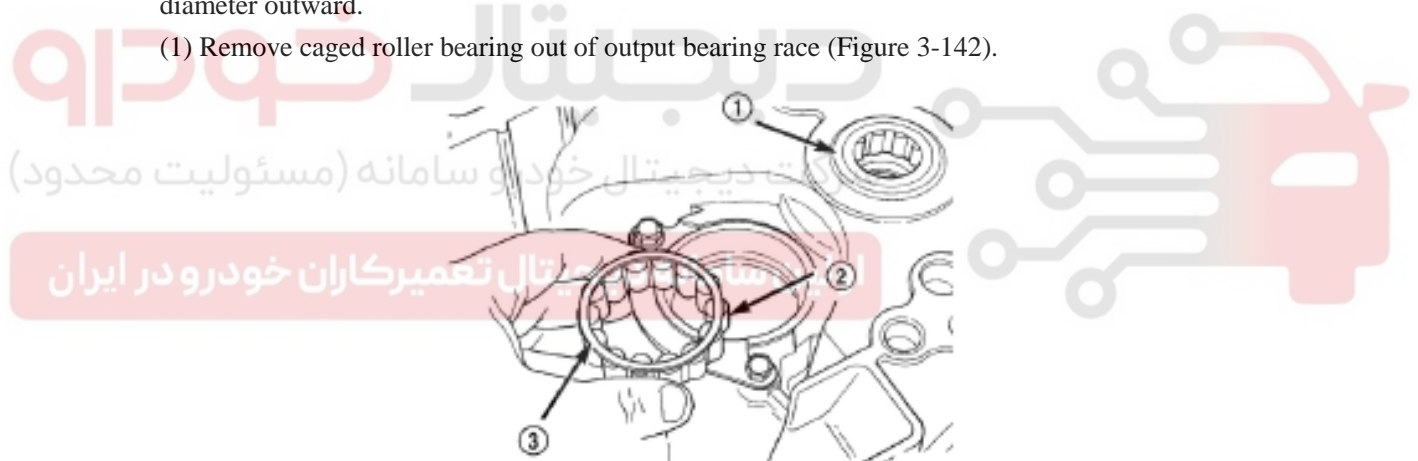

Figure 3-142 Output roller bearing
(1) Remove caged roller bearing out of output bearing race (Figure 3-142).